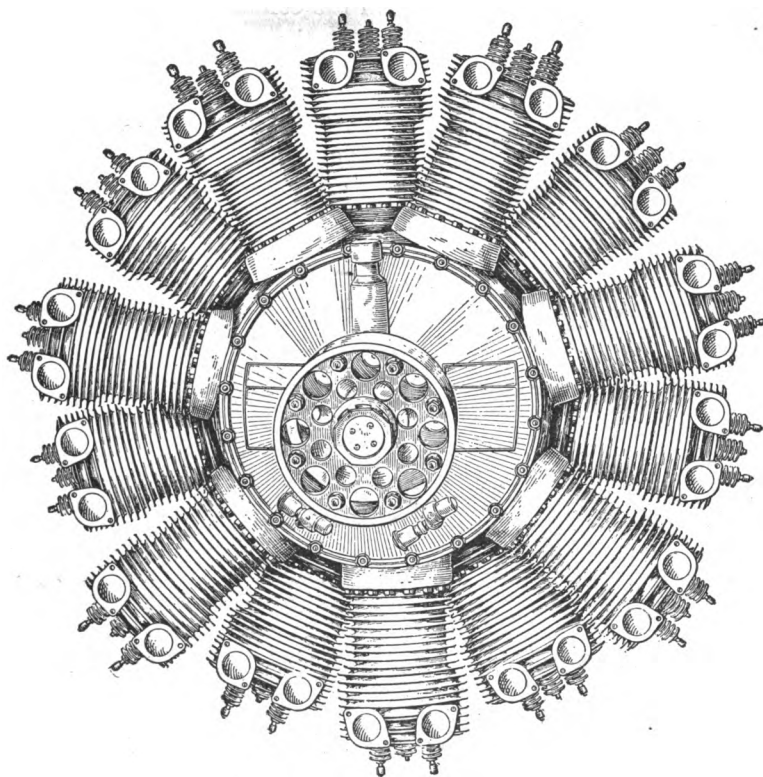

Fig. 79. Front Appearance of Mercury Fourteen-Cylinder Radial Engine, Consisting of Two Staggered Sets of Seven Cylinders
*Mercury.* When a pair of motors is coupled together and a two-throw crank used, we get a double such as indicated in the tabular analysis of aerial engines. Thus, the fourteen-cylinder engine shown in Fig. 79 consists of two batteries of seven cylinders each. These are of the air-cooled fixed radial type and have a bore of 4¾ inches and a stroke of 5¼ inches. The normal output is 315 b.h.p. (brake horse-power) at 1,800 r.p.m., and the weight 587 pounds, or 1.86 pounds per h.p. There are three valves per cylinder, one inlet and two exhausts, while ignition is supplied by two seven-cylinder magnetos, and mixture by two carburetors feeding a circular manifold.